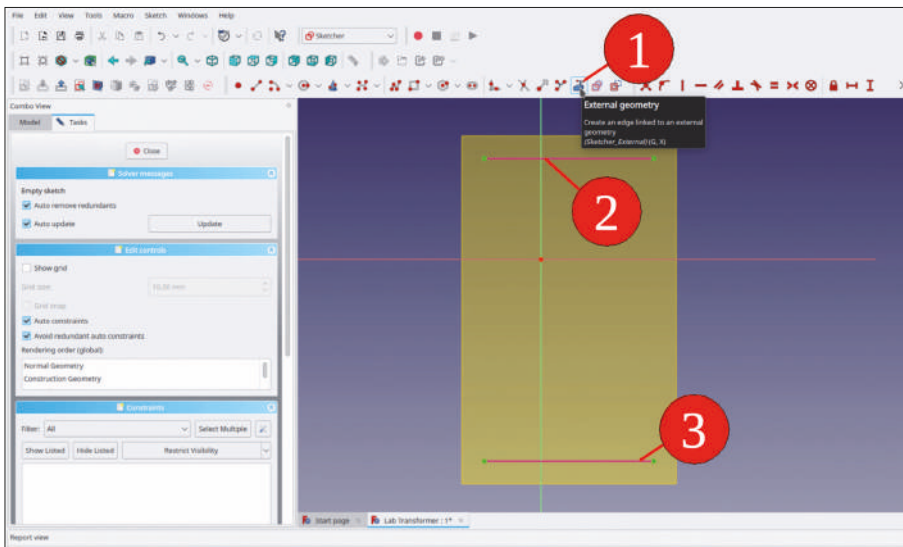

Figure 9-110
10. Click on the 'External geometry' tool button and mark the two shape binders (Figure 9-110).